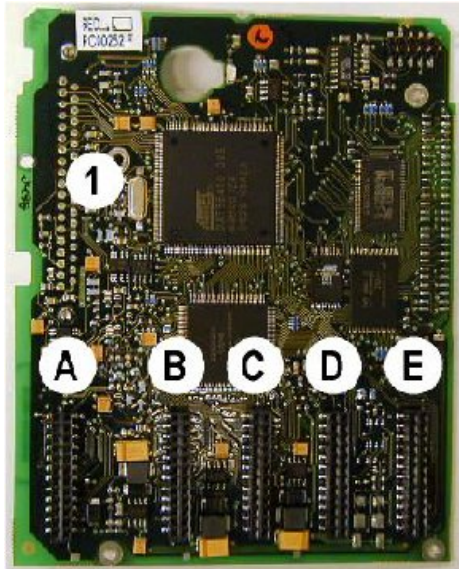

Figure 5-7. Control Board
The control unit of the inverter consists of the control board and option boards (see Figure 5-7 and Figure 5-20) connected to the five slot connectors (A to E) on the control board. The control board is connected to the power unit through a D connector (1).